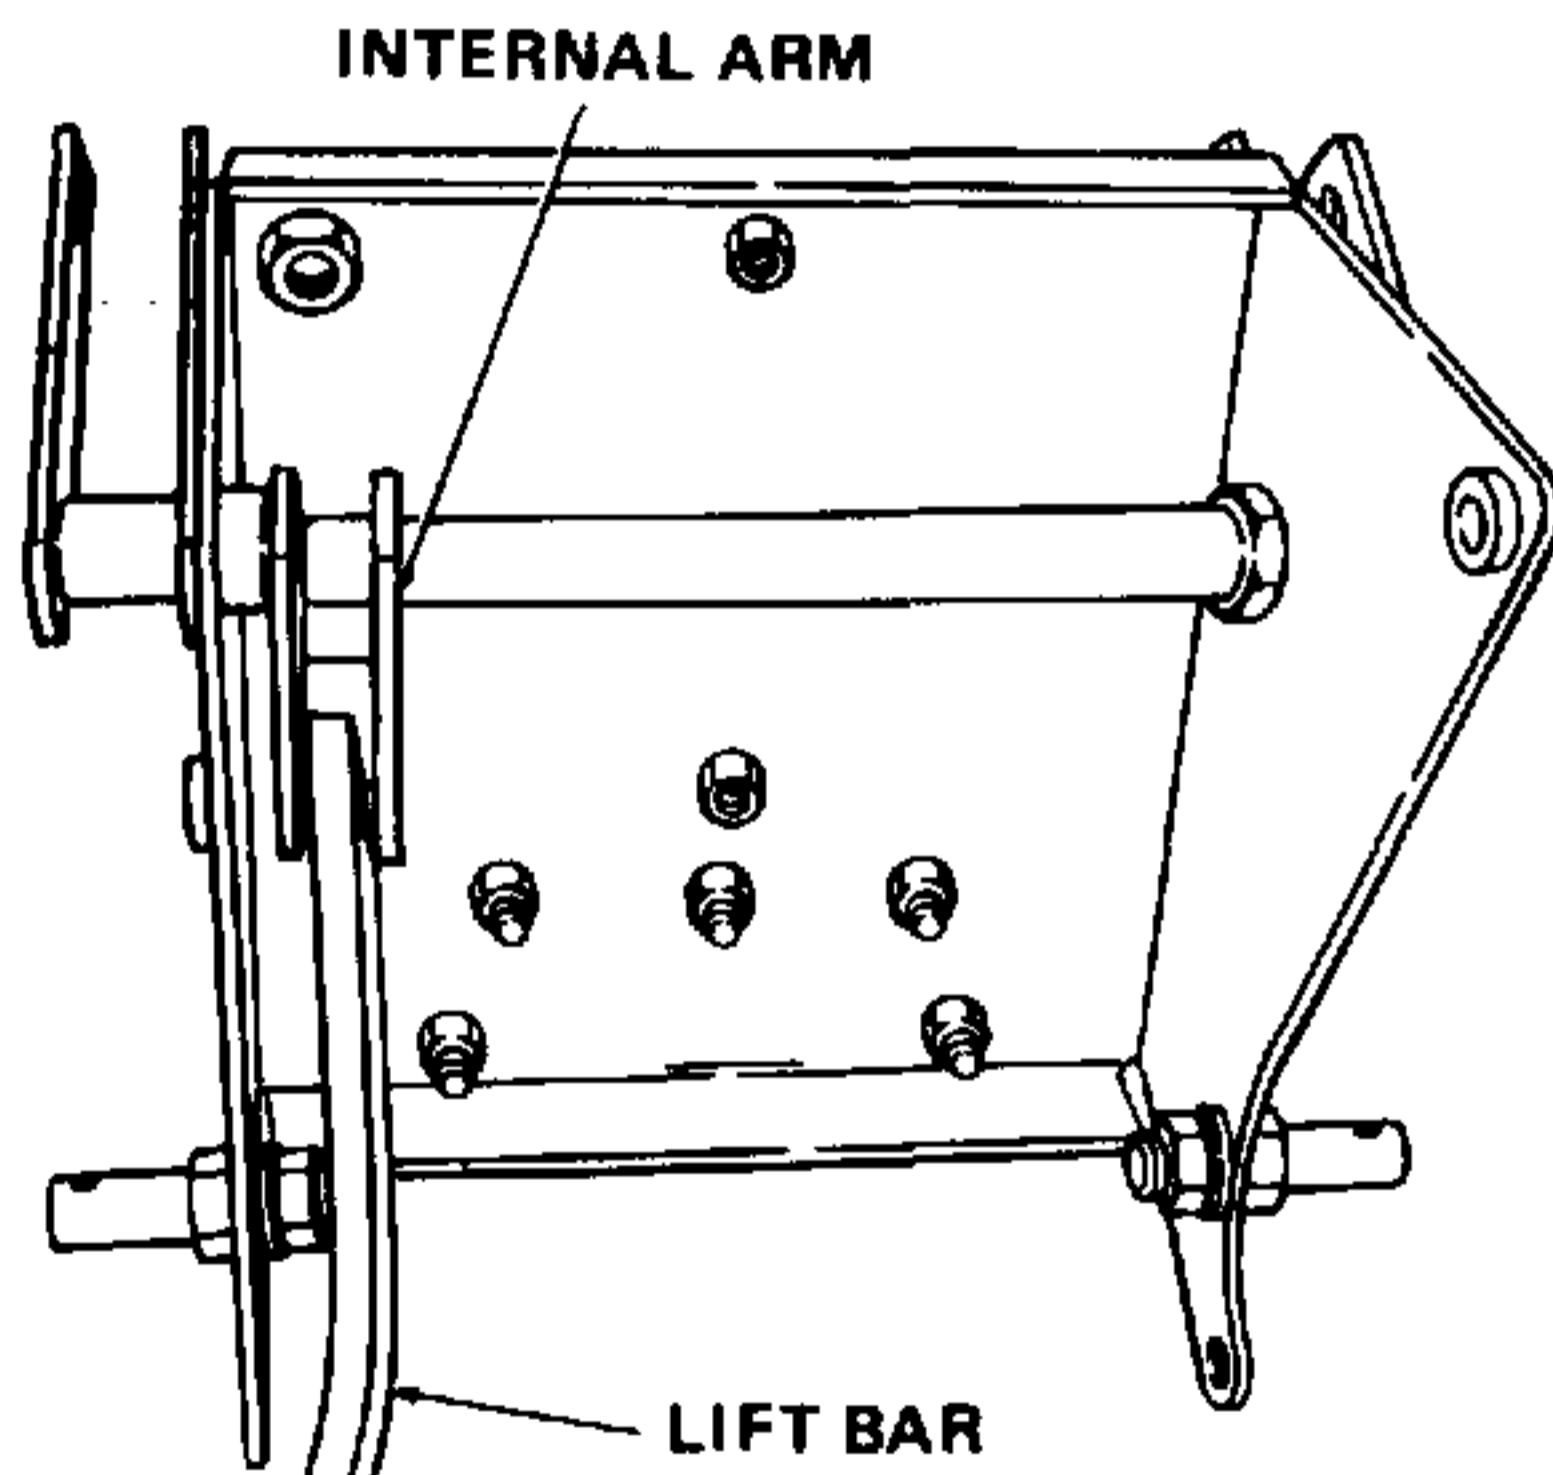

Figure 7-46. Installing Lift Bar.
- b. Place slotted end of lift bar (2, Figure 7-41) inside internal arm of 3-point hitch plate assembly. Countersunk hole at front end of lift bar should face toward front of tractor, and toward right side of the frame. Refer to Figure 7-46.